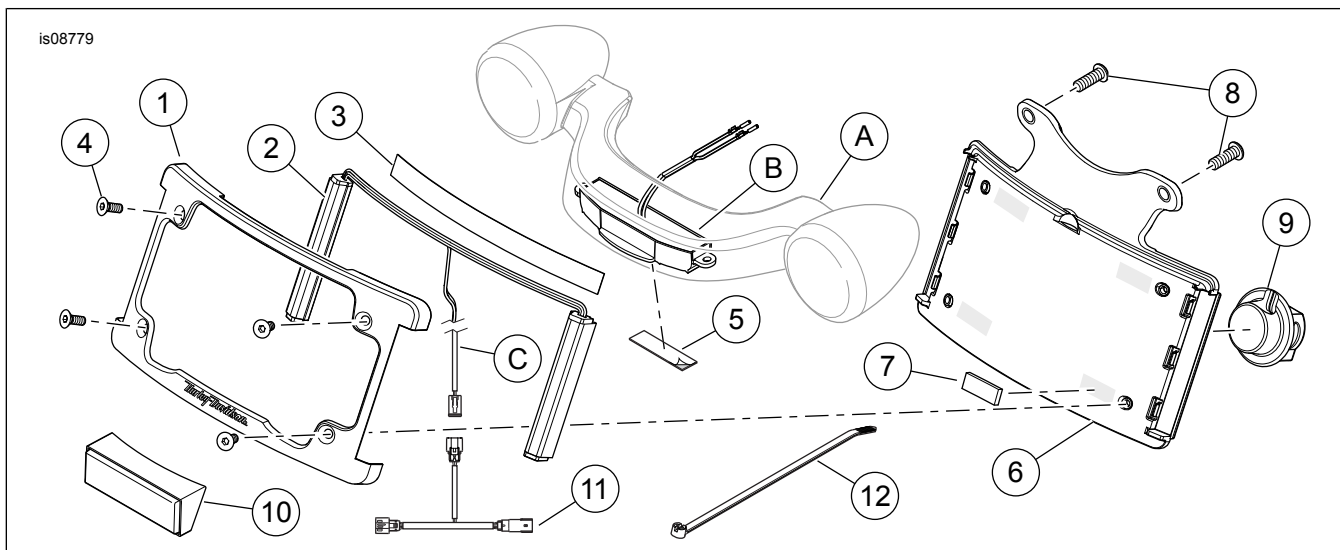

Figure 5. Service Parts, LED Curved License Plate Frame and Mount Kit
See Figure 5 and Table 1.
1. See Figure 5. Remove the chrome/black frame (1) from the Curved License Plate Frame assembly. Retain the four flat head screws (4).
2. Remove and retain the two screws securing the light bar (A) to the fender.
4. **2014-later models:** Remove the two screws and washers securing the Original Equipment (OE) license plate mount and reflector assembly to the light bar. Retain the washers and reflector assembly.
9. Remove and discard the OE fender grommet. Get the new grommet (9) from the kit. See Figure 5.
10. Route the light bar and Curved License Plate Frame harness (C) through the split grommet into the underside of the fender.
11. **2014-later models:** Mount the Curved License Plate Frame mount assembly (1) and OE reflector assembly to the light bar (A).
- a. Use two **new** screws (8) and the washers saved earlier. Tighten.